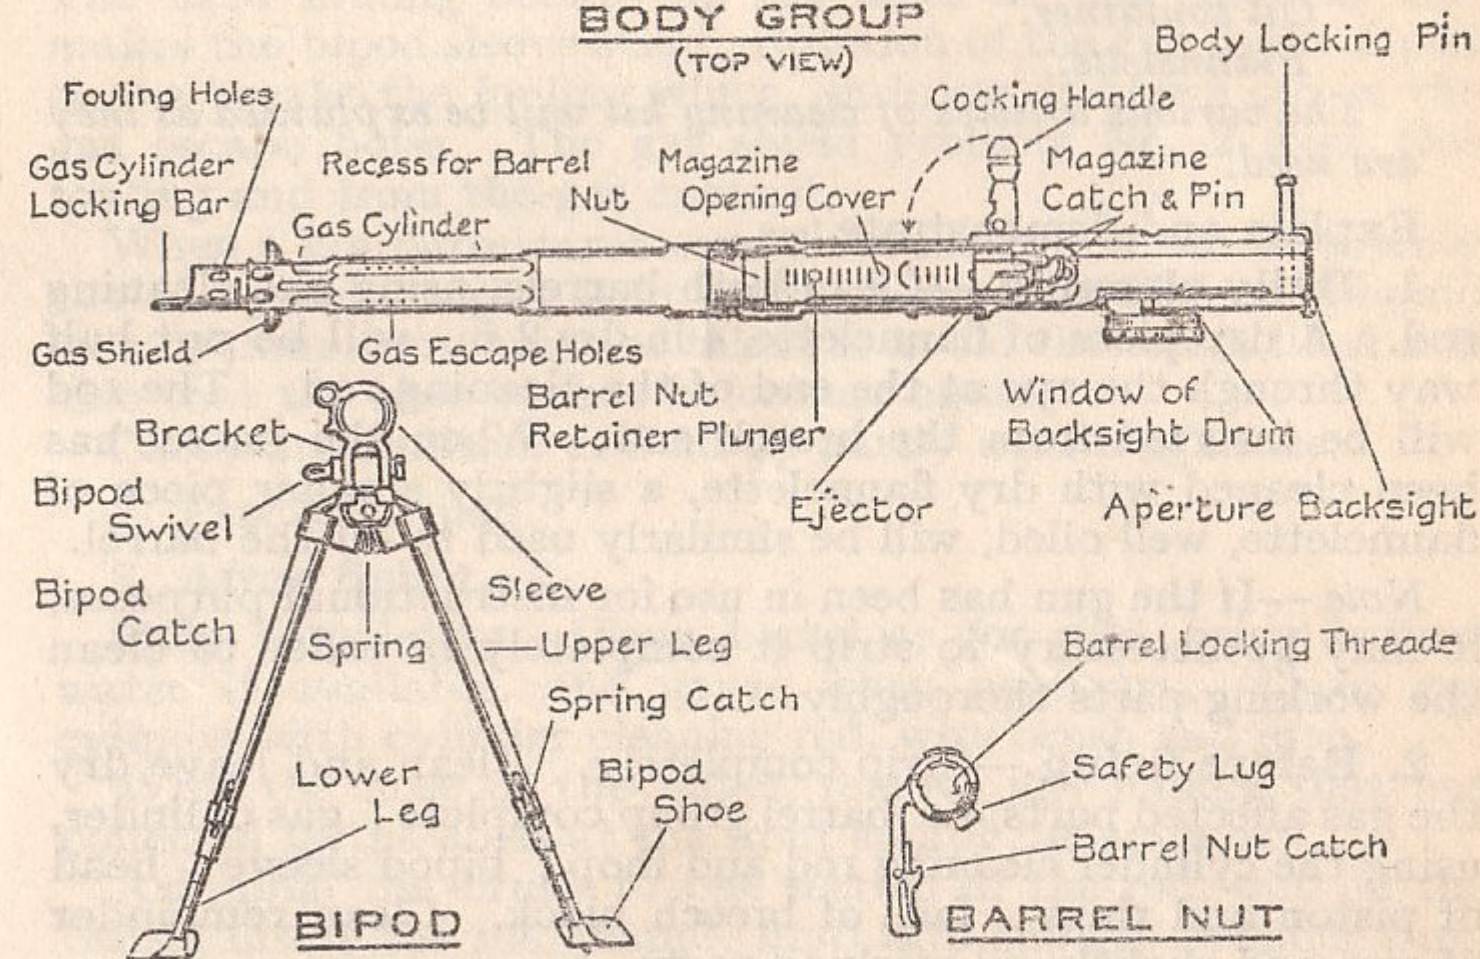

FIG. 9.
1. Body group and bipod (see Fig. 9).—